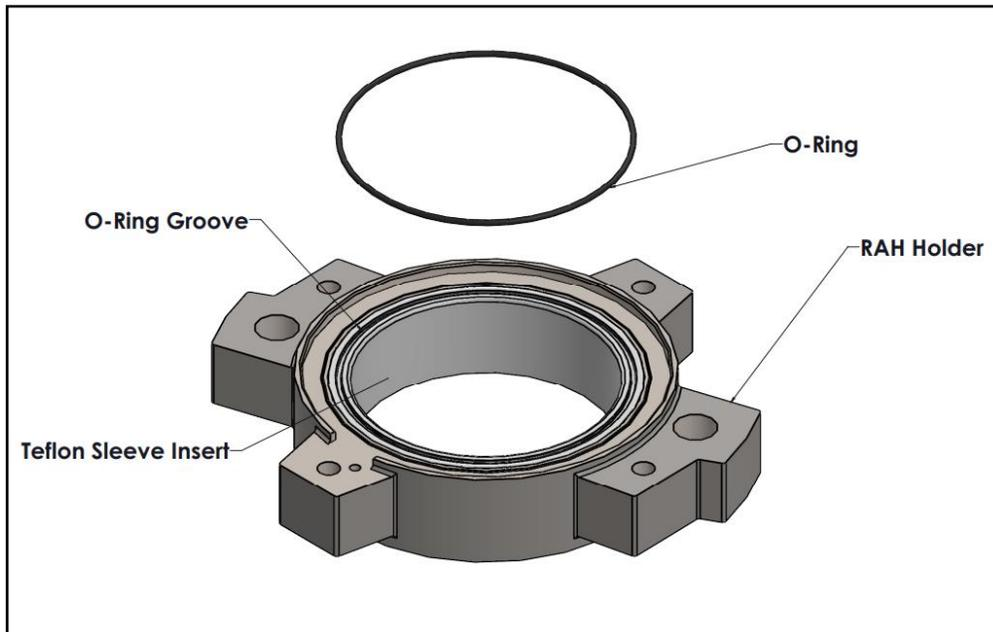

Figure 3. RAH Holder with Teflon Sleeve Insert
- v. Figure 3 displays a teflon sleeved holder. Teflon sintered holders are similar except they do not have a sleeve.